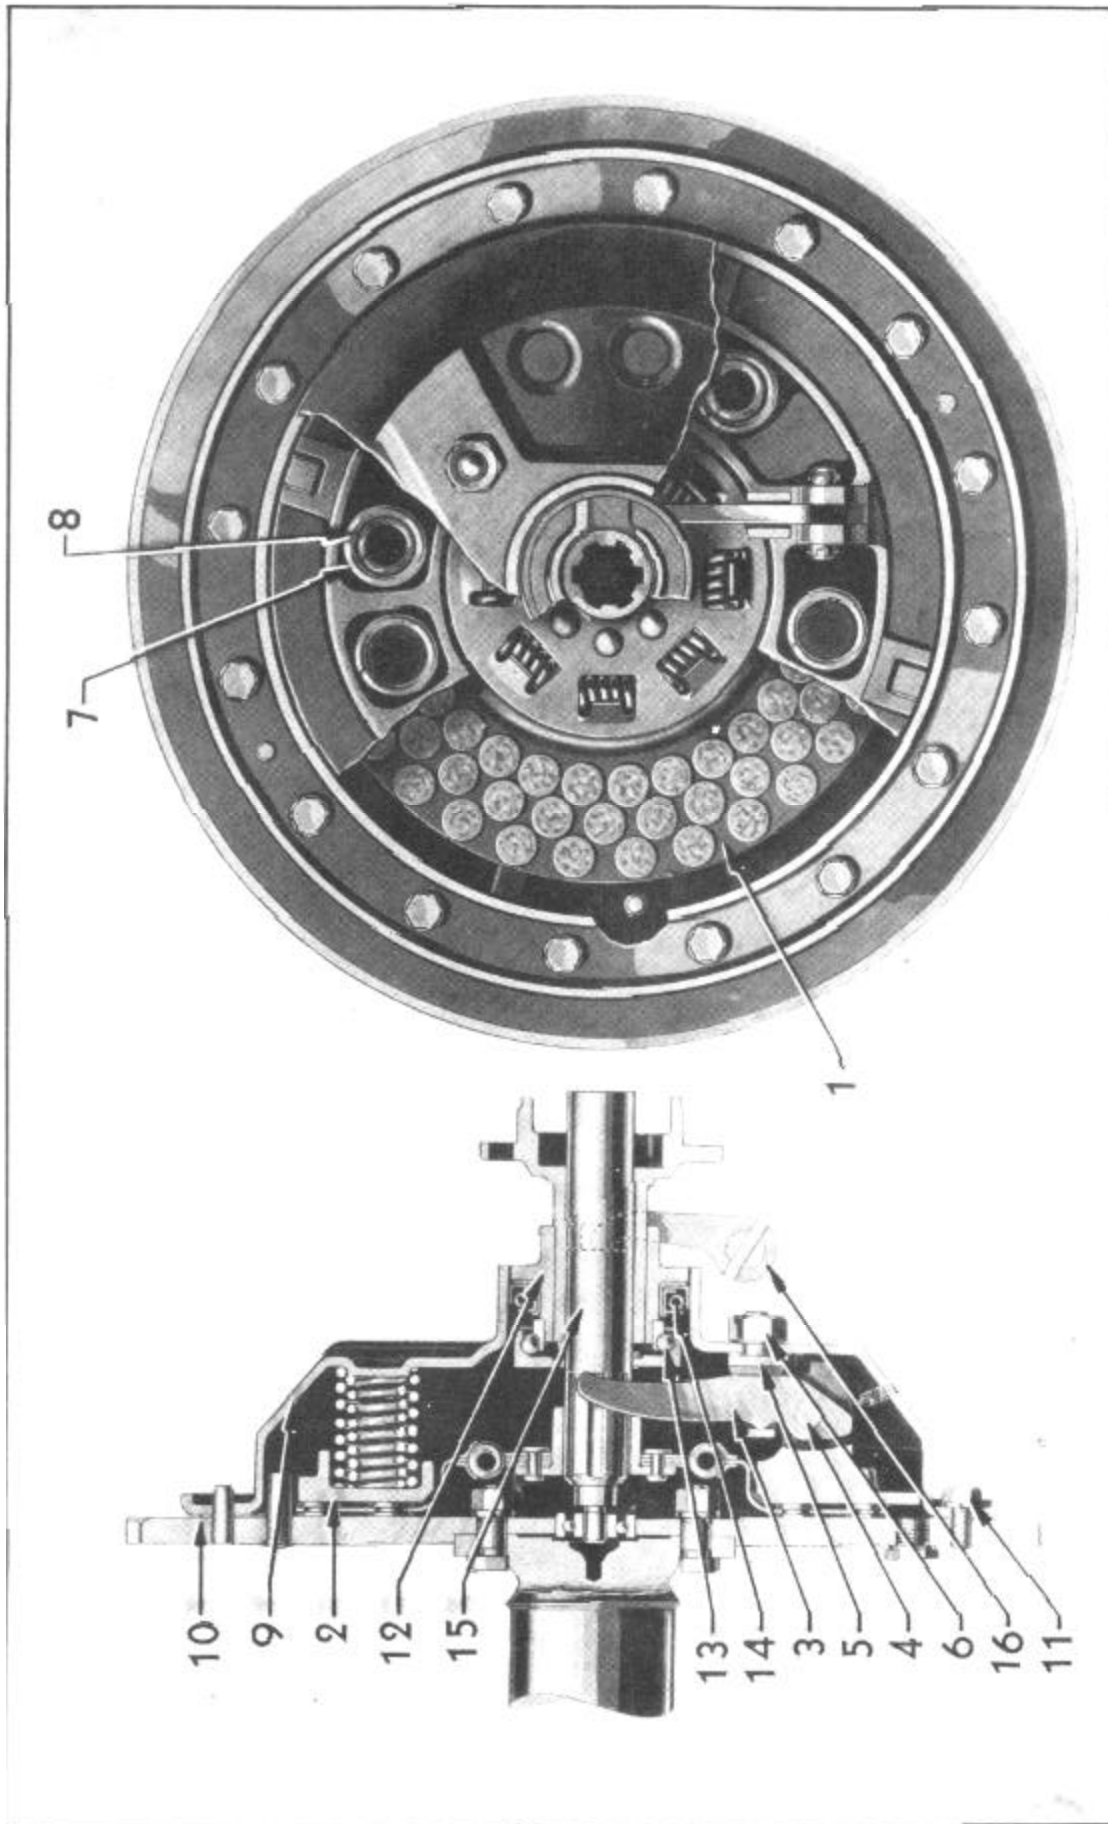

Figure 2--Clutch Assembly
The rear face of the flywheel and the front face of the pressure plate (2), Figure 2 bear against the two faces of the driving plate surface (1). The pressure plate is held by springs (7) equally located around the circumference, supplemented in some models by inner springs (8).
1. Check the condition of corks in driving plate (1), Figure 2. A black glaze indicates the use of an improper lubricant. The use of Hudsonite lubricant keeps the pores of the corks open and if the corks are not burned, soaking the driving plate in Hudsonite and the use of Hudsonite in the clutch after reassembly will very often clean up the cork surfaces.
2. Pressure plate (2), Figure 2, should be free of scores
The engaging springs (7), Figure 2, for Models 40, 41, 48 when compressed to 1 3/4" have a weight of 155 lbs. + or - 5 lbs. The models 43, 44, 45, 47 springs when compressed to 1 5/8" have a weight of 135 lbs. + or - 5 lbs.
The inner engaging springs (8), Figure 2, when compressed to 1 5/8" have a weight of 80 lbs. + or - 5 lbs.